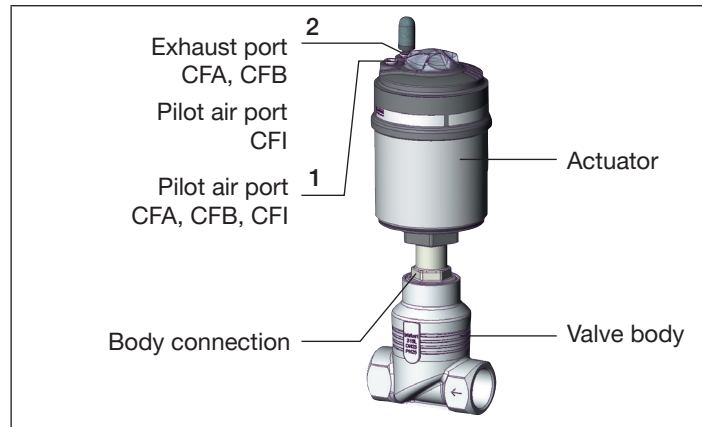

Fig. 29: Part designation
- For **control function A and I** pressurise the pilot air port 1 with 6–8 bar (see “Fig. 29: Part designation”).
- For **control function B** pressurise the pilot air port 2 with 6–8 bar (see “Fig. 29: Part designation”).